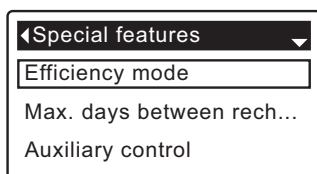

FIG. 75
5. Press the SELECT (O) button to display the Special features menu (See Figure 75).
9. Press the SELECT (O) button. The display will go back to the Special features menu (Figure 75).